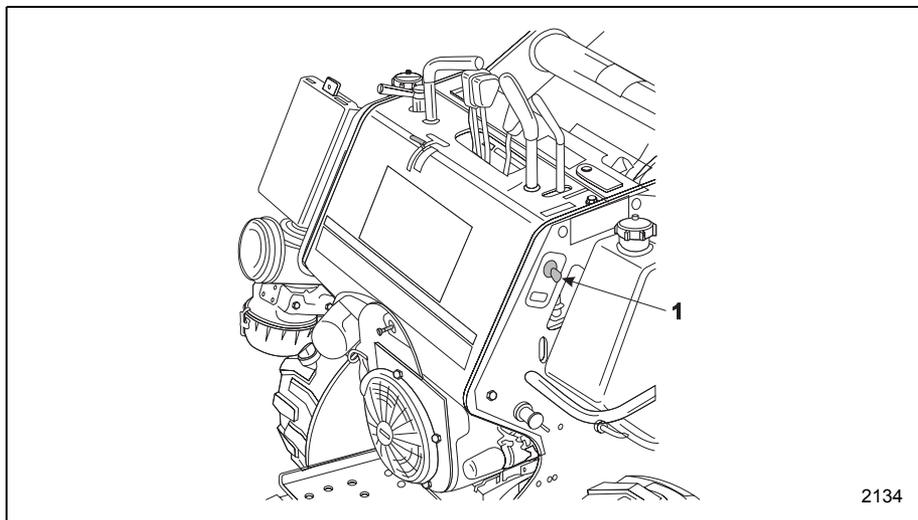

Figure 3–9 Engine Keyswitch
4. Rotate and hold the start switch (Item 1, Figure 3–9) in the START position until the engine starts.